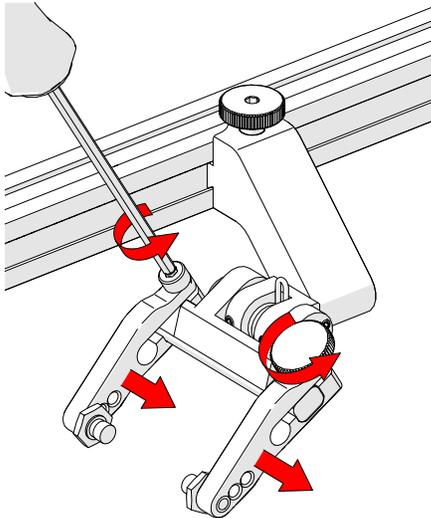

Fig. 36 - Adjust inner probe holder arm
3. Loosen the probe holder arm adjustment knob (Fig. 36) and remove the outer probe holder arm from the yoke.
4. Adjust the inner probe holder arm to best centre the probe on the yoke's pivot axis (Fig. 36).